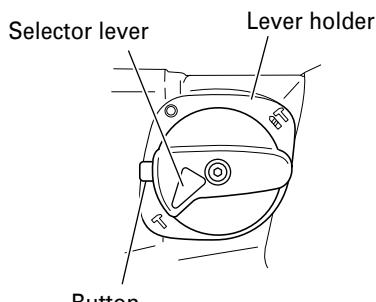

Fig. 6
(1) Switching to "hammering"
- (b) Align \blacktriangle of the selector lever and T of the lever holder as illustrated in Fig. 6.